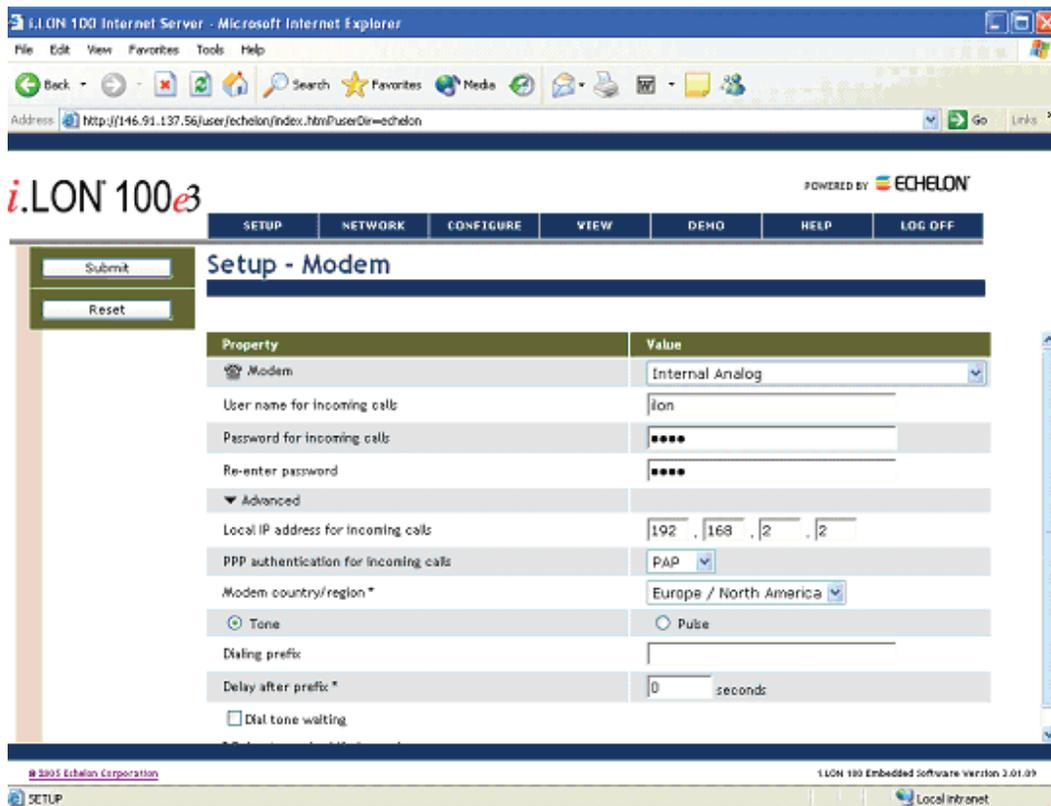

FIGURE 4-38. MODEM SETUP
5. For the modem type, select **Internal Analog**. (see Figure 4-38).